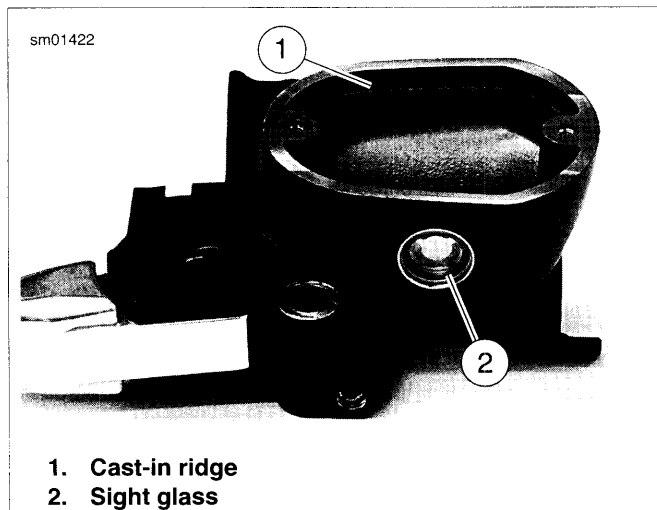

Figure 1-26. Filling Front Master Cylinder Reservoir (Typical)
15. See Figure 1-26. Check brake fluid level in master cylinder. Add enough HARLEY-DAVIDSON D.O.T. 4 BRAKE FLUID to reservoir to bring fluid level even with ridge (1) cast into inside of reservoir, about 1/4-inch (6.35 mm) below top edge.